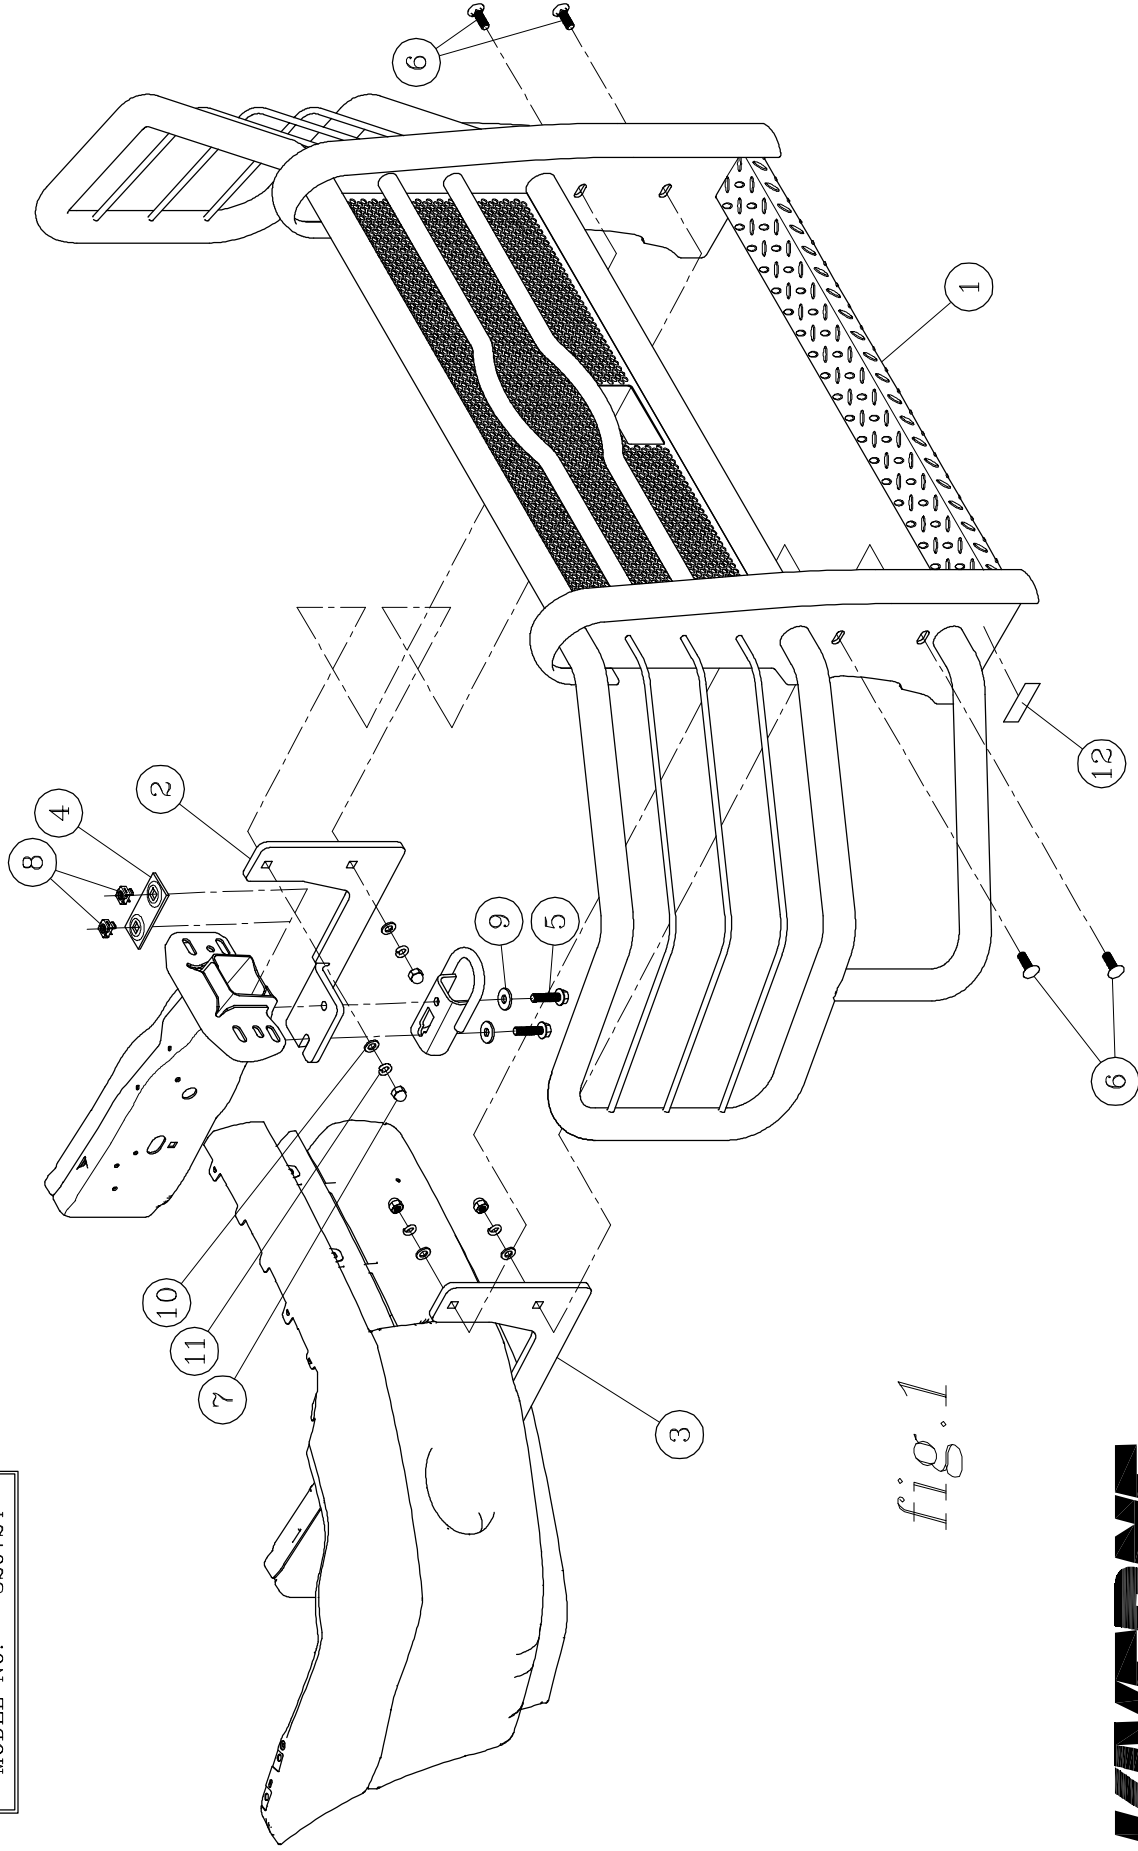

fig. 1
4. INSTALL THE RIGHT HAND AND LEFT HAND MOUNTING BRACKETS (ITEM #2 & #3) USING TWO 1/2"-13 X 2" HEX HEAD FLANGE BOLTS (ITEM #5) AND TWO 1/2" FLAT WASHERS (ITEM #9), IN EACH BRACKET AS SHOWN IN *fig. 1*. HAND TIGHTEN ONLY AT THIS TIME.